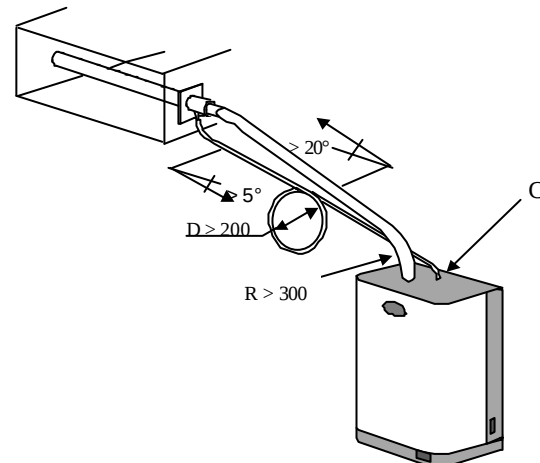

Fig. 4.6.3
2. for short paths (less than 2 metres), curves with a minimum radius of 300 mm, followed by a rising section with a gradient of no less than 20° (see Fig. 4.6.3).
If the distance of the distributor allows, the pipe may be connected to fitting C, supplied, to be screwed onto the top of the humidifier, in order to drain the condensate back into in the supply tank of the boiler (see Fig. 4.6.3).